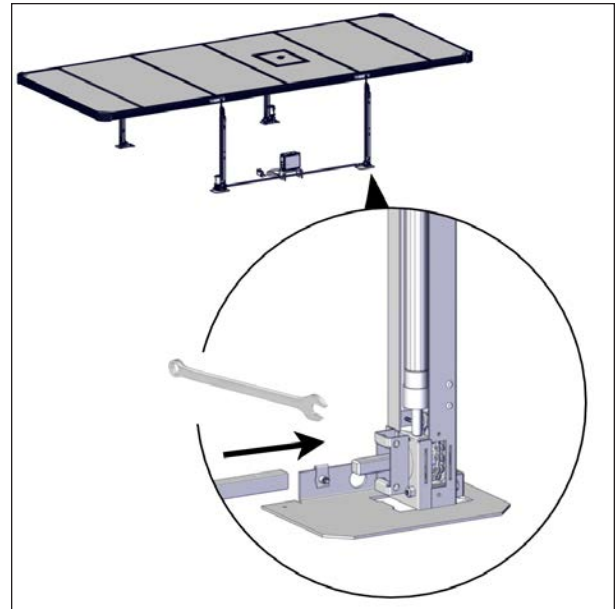

FIGURE 79: DRIVE SHAFT INSTALLATION ON THE NON-MOTOR SIDE
3. On the same spa side, install the drive shaft onto the non-motorized jack's shaft see Figure 79.
If drive shaft does not line up with non-motorized jack's shaft, the use of a 3/4" (19 mm) wrench or adjustable wrench can help. Slightly rotate the shaft as shown in Figure 79.